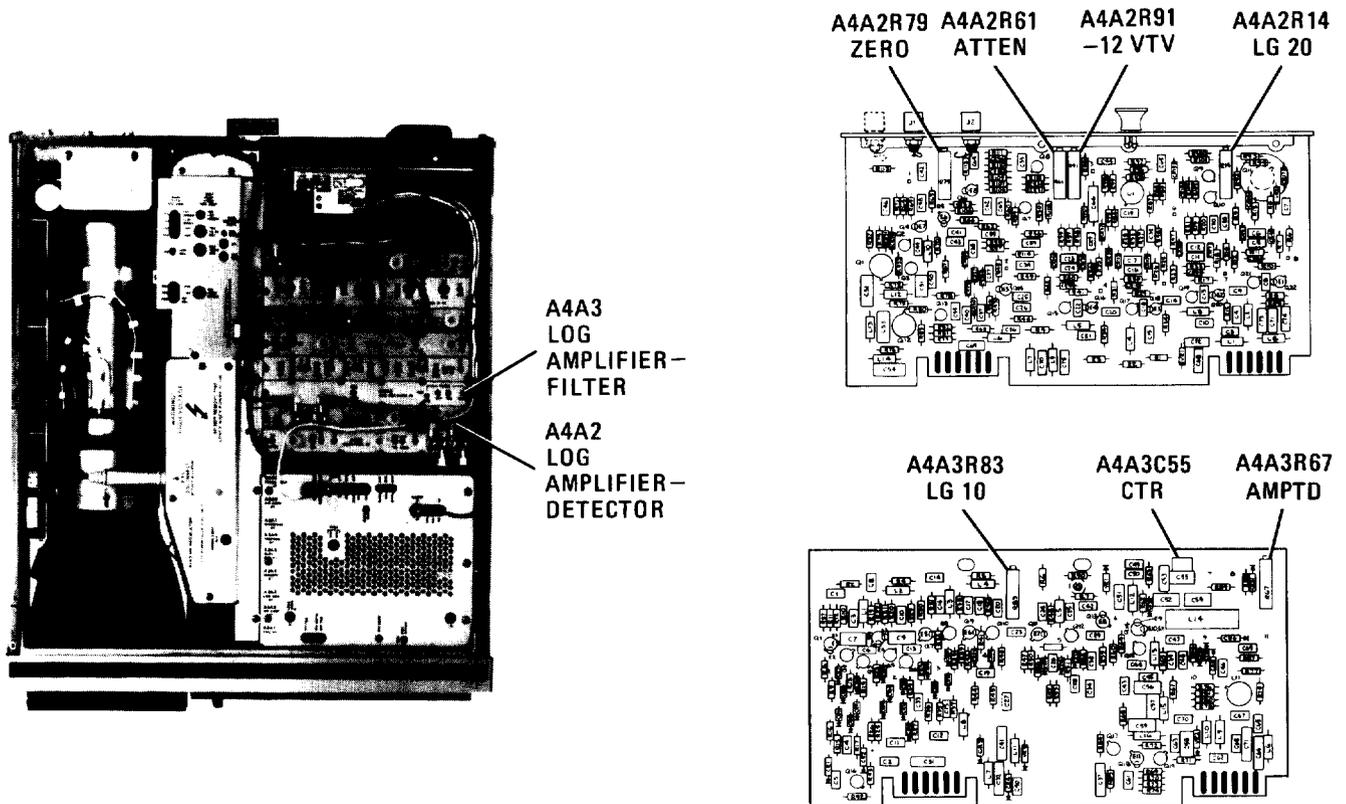

FIGURE 20. LOCATION OF LOG AMPLIFIER ADJUSTMENTS
5. Adjust A4A2R79 ZERO for 0.0000 ± 0.0005 Vdc. Refer to Figure 20 for location of adjustment.
8. Adjust A4A3C55 CTR for maximum DVM indication. Refer to Figure 20 for location of adjustment. If A4A3C55 is at an extreme of its adjustment range (fully meshed or unmeshed), increase or decrease value of A4A3C52 and A4A3C53. Refer to Table 3 for range of values.
11. Adjust A4A3R67 AMPTD for DVM indication the same as that noted in step 9 ± 0.0005 Vdc. Refer to Figure 20 for location of adjustment. If unable to adjust A4A3R67 AMPTD for proper indication, increase or decrease value of A4A3R66. Refer to Table 3 for range of values.
17. Adjust A4A2R91 – 12 VTV for DVM indication of $+ 500 \pm 1$ mVdc. Refer to Figure 20 for location of adjustment.
19. Adjust A4A2R61 ATTEN for DVM indication of $+ 1.000 \pm 0.001$ Vdc. Refer to Figure 20 for location of adjustment. If unable to adjust A4A2R61 ATTEN for proper indication, increase or decrease value of A4A2R62. Refer to Table 3 for range of values.
24. Adjust A4A3R83 LG10 for DVM indication of $+1.000 \pm 0.010$ Vdc. Refer to Figure 20 for location of adjustment. If unable to adjust LG10 for proper indication, increase or decrease value of A4A3R54. Refer to Table 3 for range of values.
27. Adjust A4A2R14 LG20 for DVM indication of $+1.000 \pm 0.010$ Vdc. Refer to Figure 20 for location of adjustment. If unable to adjust LG20 for proper indication, increase or decrease value of A4A2R18. Refer to Table 3 for range of values.